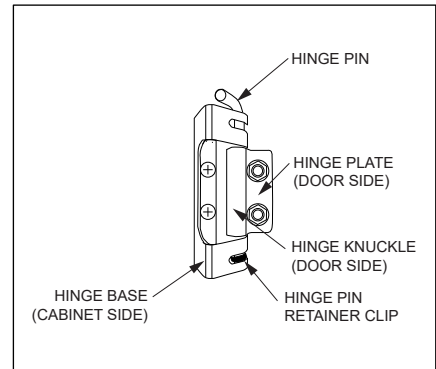
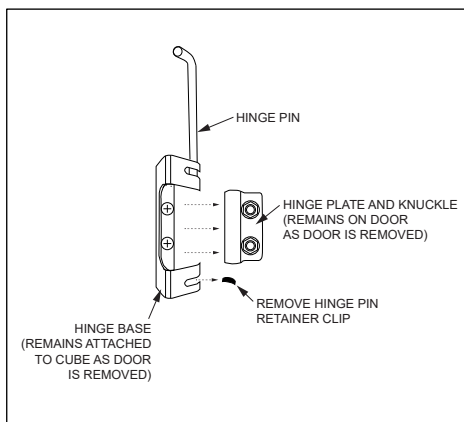

Figure 4 Hinge Assembly
Figure 5 Hinge Separation
4. For each of the hinges, locate the hinge pin (Figure 4). Use a hammer or mallet to move the pin upward to its highest position (Figure 5). If the retainer clip becomes dislodged, be sure to retain it for re-installation.
5. Remove the door from the CUBE (Figure 5). The hinge plate and hinge knuckle (one piece) remain attached to the door. The hinge base with the hinge pin remains attached to the CUBE door frame.
1. Move the replacement door into position so that the hinge knuckles on the replacement door line up with the hinge pin holes on the hinge base on the CUBE door frame (Figure 5). Use local safety practice for lifting the door. Charles recommends using two people to support the weight and a third person to maneuver the hinges into position.
2. While supporting the door weight, secure the door into position by replacing the hinge pins through the hinge knuckles into the lowest pin position. A hammer or mallet may be necessary to lower the hinge pin all the way through the knuckle. Secure the pin by placing the retainer clip in the bottom position (Figure 5).